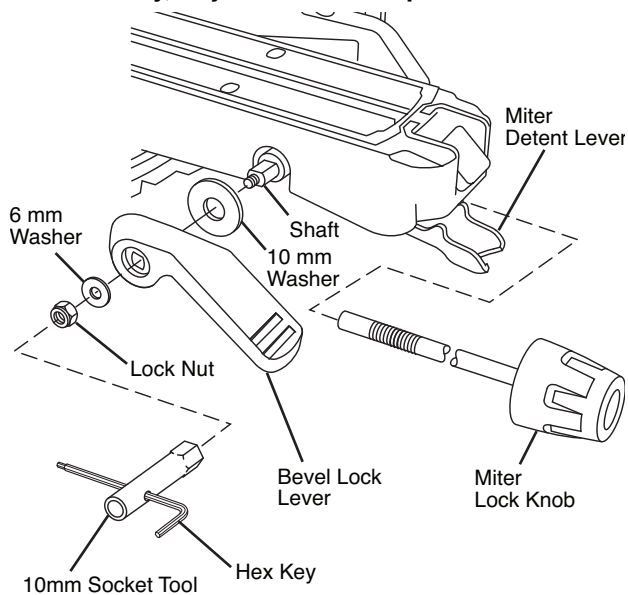

Figure 1
2. Slide the bevel lock lever over the shaft, aligning the flats on the shaft to the flats on the lever's mounting hole. The lever should be horizontal with the handle to the front (see Figure 1).
1. Look under the turntable's front arm above the lock lever and locate the 10mm hole (see Figure 1).